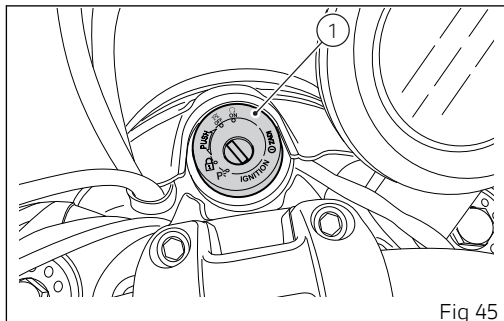

Fig 45
Move the ignition switch to (1, Fig 45). Make sure both the green light N (A) and the red light  (B) on the instrument panel come on.